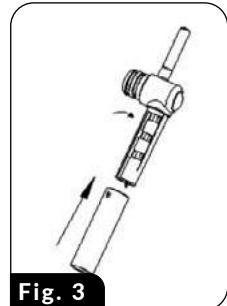

Fig. 3
1. Place small cups on the sliding stand (6) after it has been pulled out.
2. Two large holes in the stand (6) and the grate (9) are located directly below the holes where coffee in the portafilter flows out – this is an indication of how to place two small cups while brewing a double "Espresso".
3. Place a large cup directly on the drip tray (9) – the stand (6) should then be slid in the device.
CAUTION! When brewing CAPPUCINO or LATTE, make sure you have adjusted the nozzle of the steam wand (22). You can also adjust the length of the milk dispensing tube nozzle, blocking it in various length settings to adapt it to different cup sizes (Fig. 3).